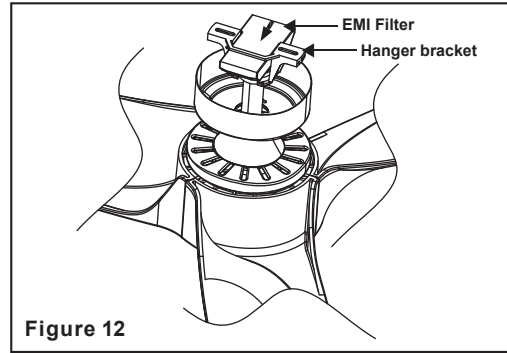

Figure 12
Step 2. Place the EMI filter into the ceiling box before installing the receiver into the bracket. Insert the receiver into the mounting bracket with the flat side of the receiver facing the ceiling. (Fig. 12)